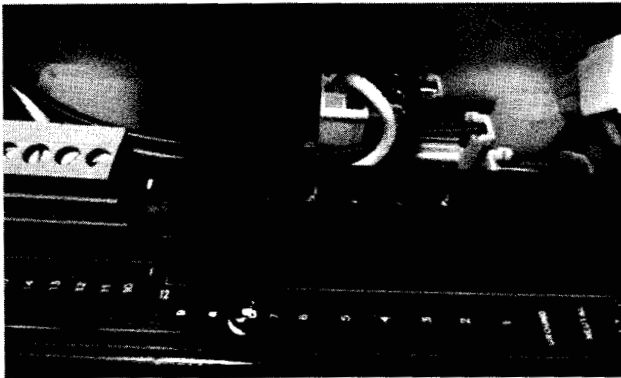

Figure 9 – Connected 4 Position Connector
5. Plug the 4 position connector (white, green, and black wires) into the connection provided on the board. See Figure 9.